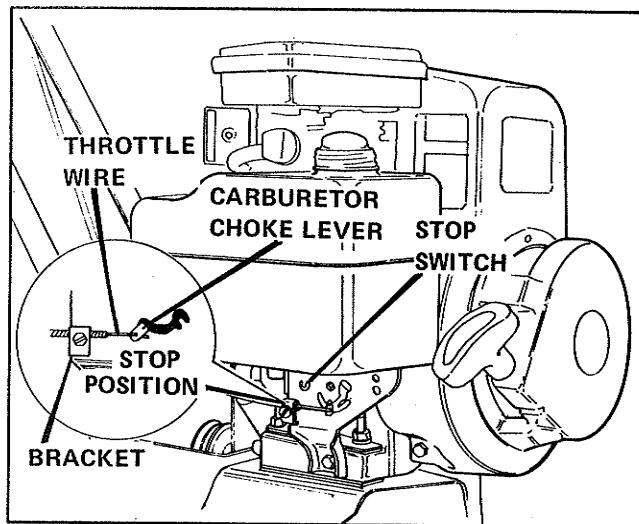

Figure 4.
- b. See Figure 4. Insert loose end of cable through bracket and slide wire into carburetor throttle lever. Tighten bracket screw. Be sure stop switch opens when throttle control lever is in STOP position.